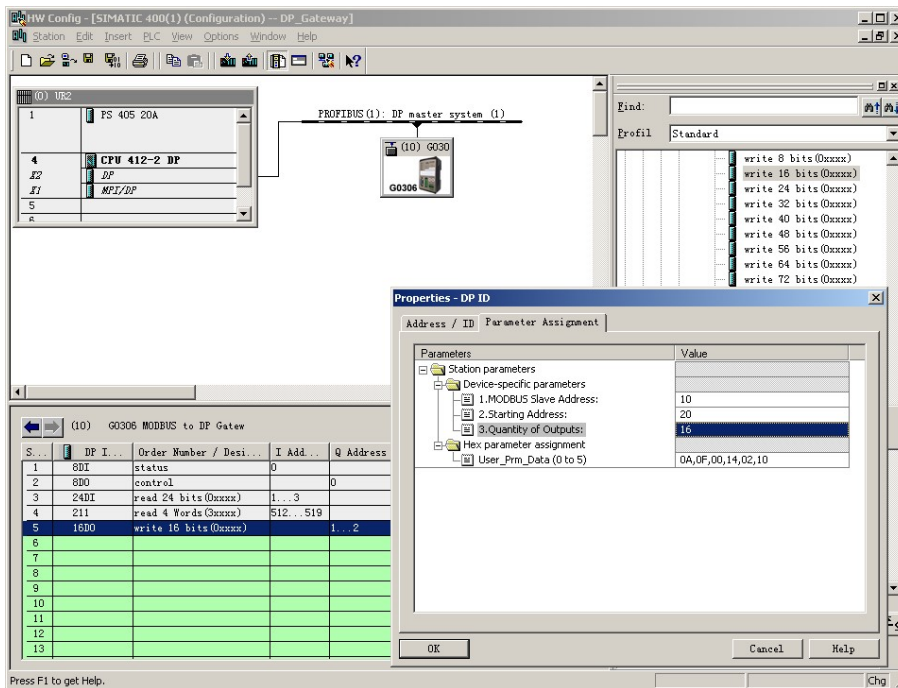

Figure 23 Configure "write 16 bits(0xxxx)" module user parameters
**b) Configure the user parameters of the "write 16 bits(0xxxx)" module, as shown in Figure 23:**
"1.MODBUS Slave Address:" ⇒ Type in Modbus slave address 10, as shown in Figure 23
"2.Starting Address:" ⇒ Type in the starting address 00021 of the coil 0xxxx to be written, and set the address to 20, as shown in Figure 23
"3. Quantity of Outputs:" ⇒ Enter the number of coils to be written 16 ⇒"OK", as shown in Figure 23